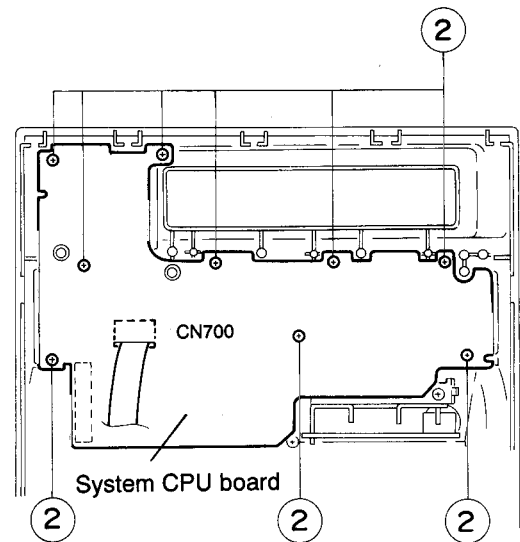

Fig.5-22
7. Remove the nine screws ② fastening the system CPU board. (See Fig. 5-22)
8. Disconnect the card wires protruding from connector CN305 on the head amplifier & mechanism control board from connector CN700 on the system CPU board. (See Figs. 5-22,5-23)